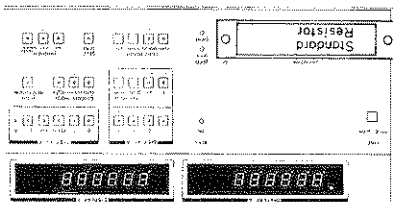

Figure 5-12. A1 Range Resistor and A4 Buffer AMP Tracking Adjustment. EQUIPMENT:
d. Connect 100k $\Omega$  resistor to 4274A UNKNOWN terminals as shown Figure 5-12 and adjust (100k $\Omega$ ) A1R21 until display counts are 10.0000uS $\pm$ 20 counts for Display A.